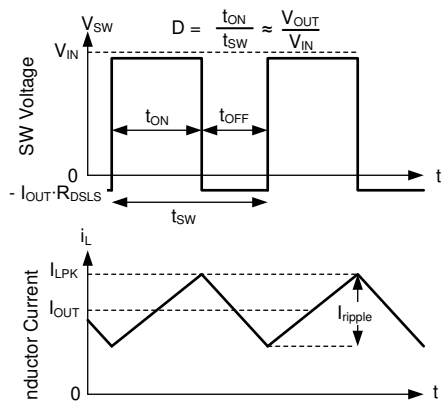

图 8-20. SW Voltage and Inductor Current Waveforms in Continuous Conduction Mode (CCM)
The following operating description of the LM6x4xx-Q1 refers to § 8.2 and the waveforms in 图 8-20. Both supply a regulated output voltage by turning on the internal high-side (HS) and low-side (LS) NMOS switches with varying duty cycle (D). During the HS switch on-time, the SW terminal voltage, V_{SW} , swings up to approximately V_{IN} , and the inductor current, i_L , increases with a linear slope. The HS switch is turned off by the control logic. During the HS switch off-time, t_{OFF} , the LS switch is turned on. Inductor current discharges through the LS switch, forcing V_{SW} to swing below ground by the voltage drop across the LS switch. The regulator loop adjusts the duty cycle to maintain a constant output voltage. D is defined by the on-time of the HS switch over the switching period: $D = T_{ON} / (T_{ON} + T_{OFF})$.